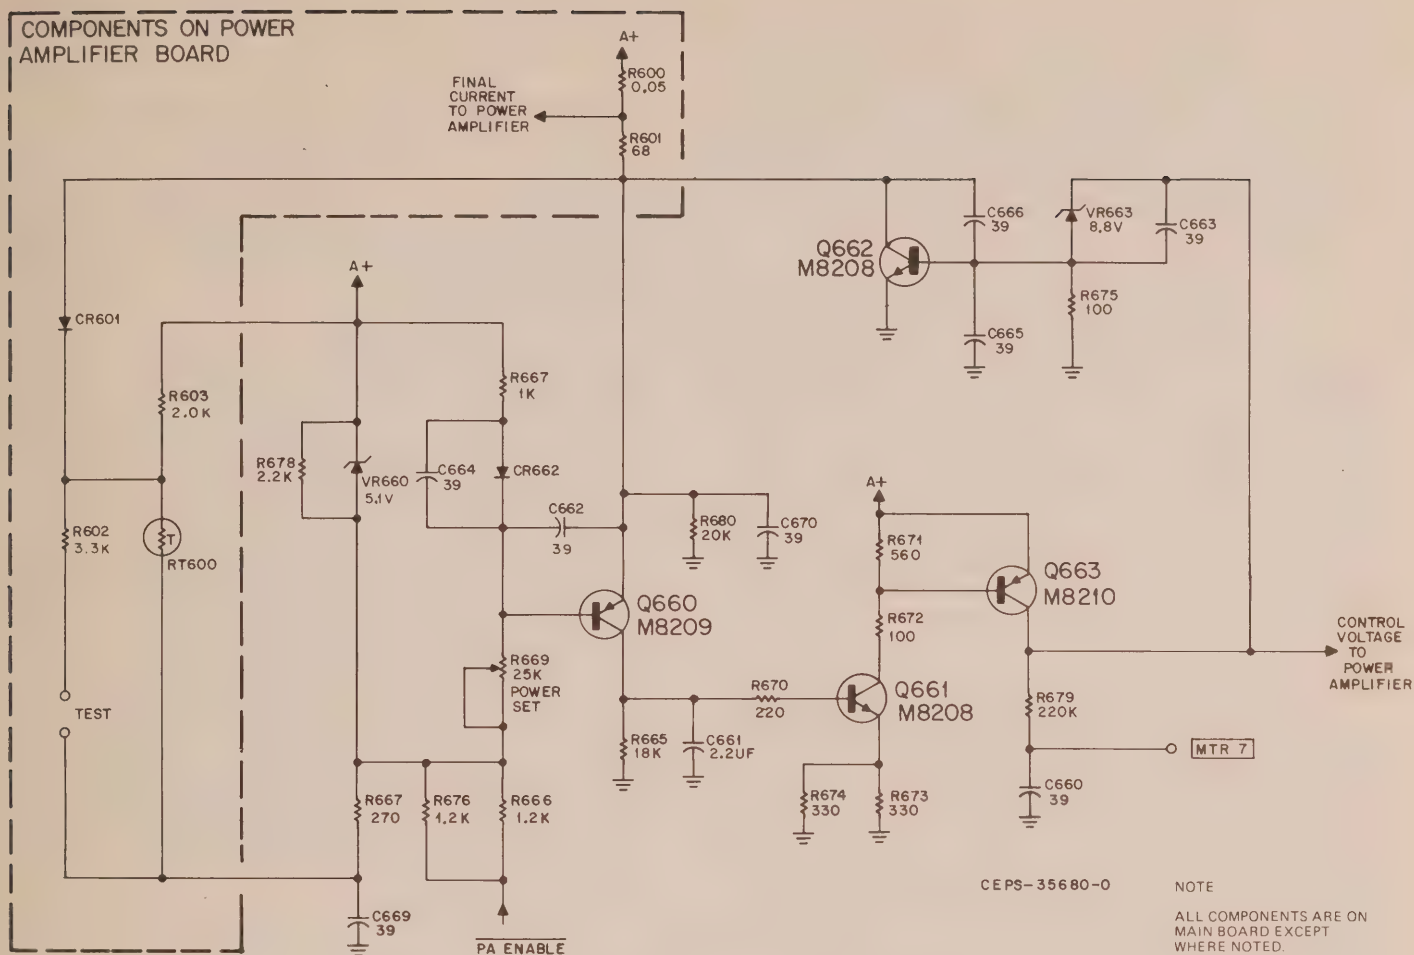

Figure 6. Simplified Schematic Diagram of Power Control Circuits
3.2.1 Components that comprise the power control circuitry are located on the power amplifier board and the main board. Refer to the schematic diagrams for both of these boards (located in the back of this manual). Also refer to Figure 6 Simplified Schematic Diagram of Power Control Circuitry.